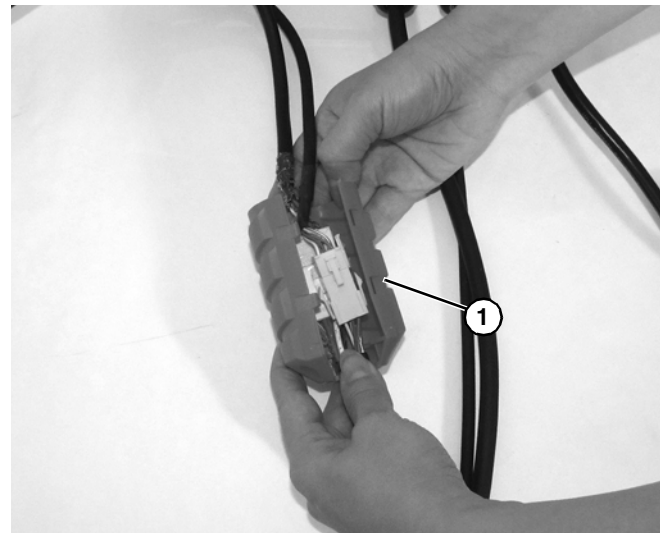

Figure 18
7. Install inner cord cover (**Figure 18, item 1**).